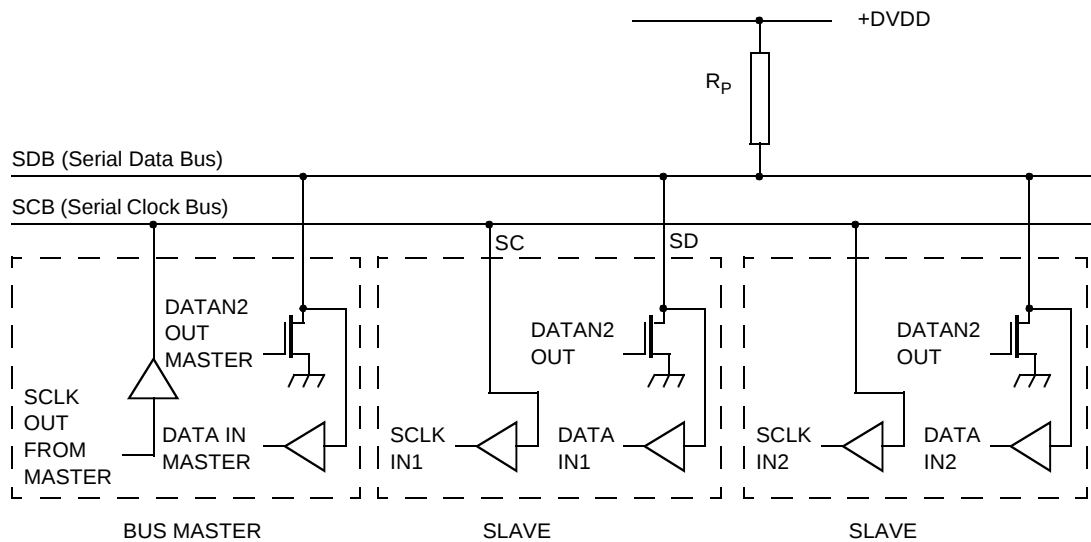

Figure 19: Connection of Devices to Bus
The CH7006 contains a standard I²C control port, through which the control registers can be written and read. This port is comprised of a two-wire serial interface, pins SD (bidirectional) and SC, which can be connected directly to the SDB and SCB buses as shown in **Figure 19**.
The Serial Clock line (SC) is input only and is driven by the output buffer of the master device (also shown in **Figure 19**). The CH7006 acts as a slave, and generation of clock signals on the bus is always the responsibility of the master device. When the bus is free, both lines are HIGH. The output stages of devices connected to the bus must have an open-drain or open-collector to perform the wired-AND function. Data on the bus can be transferred up to 400 kbit/s.
The electrical specifications of the bus devices' inputs and outputs and the characteristics of the bus lines connected to them are shown in **Figure 19**. A pull-up resistor (R_P) must be connected to a $3.3V \pm 10\%$ supply. The CH7006 is a device with input levels related to DVDD.